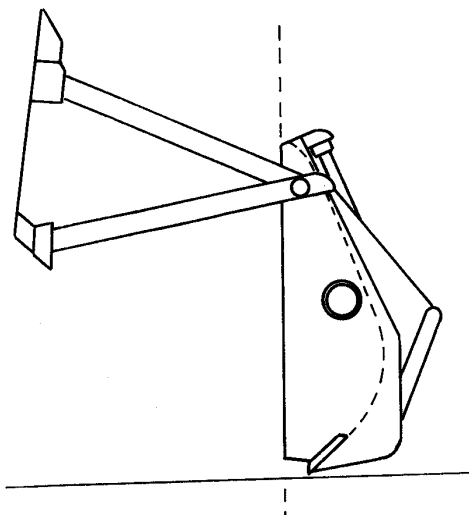
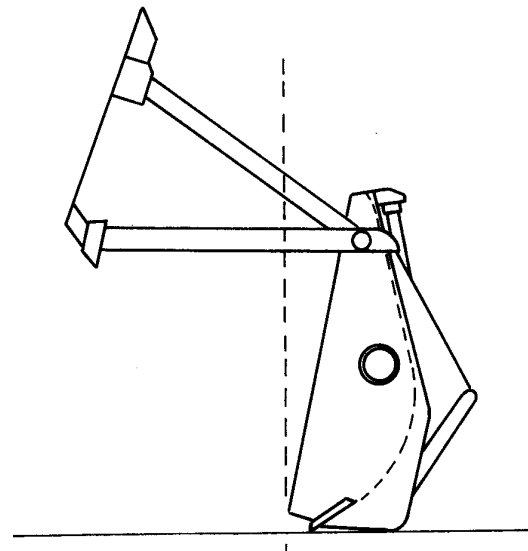

Fig. 4.61. Leveling with Multi-Purpose Bucket
Fig. 4.62. Bulldozing with Multi-Purpose Bucket
5. With the clam fully open, the multi-purpose bucket can be used to bulldoze material. Position the bucket as shown in Fig. 4.61 for level grading. Position the bucket as shown in Fig. 4.62 for spreading or to obtain a lesser cut.